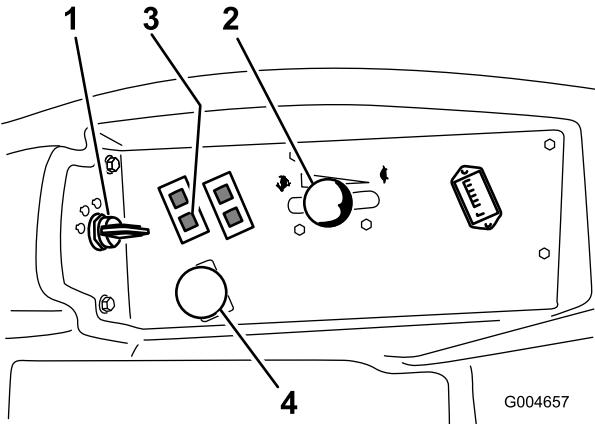

Figure 17
4. Move the PTO (power take off) switch to the off position (Figure 17).
5. Move the throttle lever midway between the Fast and Slow positions (Figure 17).